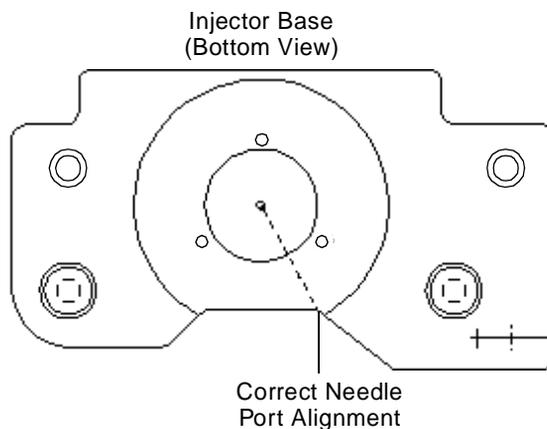

Figure 7-15 Aligning the Needle Port
6. Check the orientation of the needle port. Be sure that it faces toward the outlet (red) line of the seal pack (Figure 7-15).